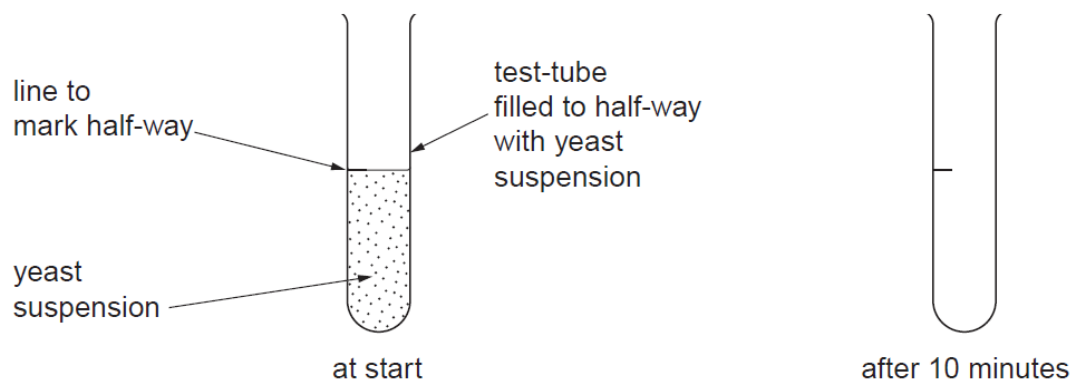

Fig. 1.1
(a) (i) Show clearly on Fig. 1.1 what you would expect the contents of the test-tube to look like after 10 minutes. You will gain marks for clear annotations.
- 2 Use the marker provided to mark a line half-way along the length of each test-tube as shown in Fig. 1.1.